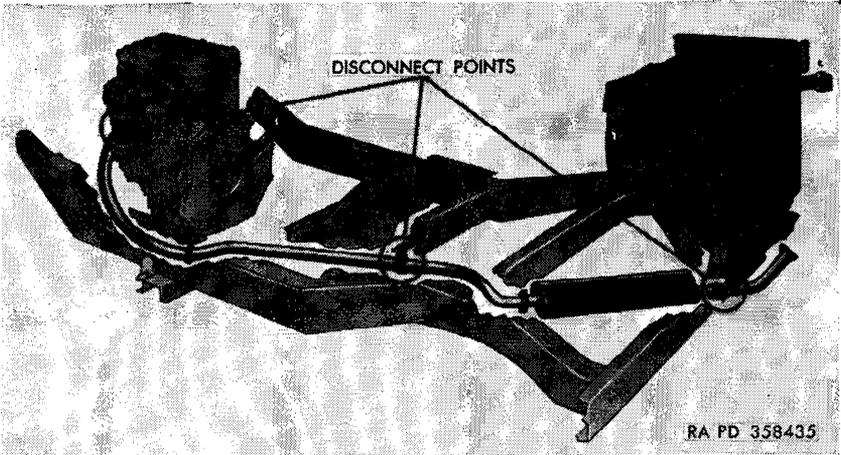

Figure 21. Exhaust pipe disconnect points.
33. Remove Exhaust Pipe (fig. 21)